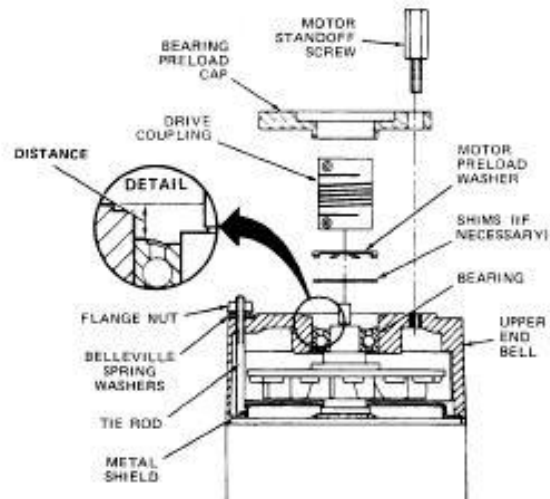

Figure 11-4. Motor Assembly
3. Remove the 3 motor standoff screws that hold the bearing preload cap in place. Figure 11-4. Lift the cap off.
- e. Remove the flange nuts and Belleville spring washers from the two motor tie rods and lift the upper end bell off. Figure 11-4.
On RC-5C brush motors (fan on the armature shaft) ensure that the metal shield is in place before installing the assembly. Figure 11-4.
- b. Position upper end bell on motor (note correct orientation). Place the two Belleville spring washers on each motor housing tie rod; tighten flange nuts equally, then back off 1/4 turn. Figure 11-4.
Make sure the armature is fully seated in the lower end bell, then measure and record the distance between the outer race of the bearing and the upper end bell. Figure 11-4. Subtract 0.655 cm (0.262 in.) from the recorded value. The remainder is called the excess gap. Use supplied shims that equal (or are as close as possible to) the excess gap value and place them on top of the bearing.